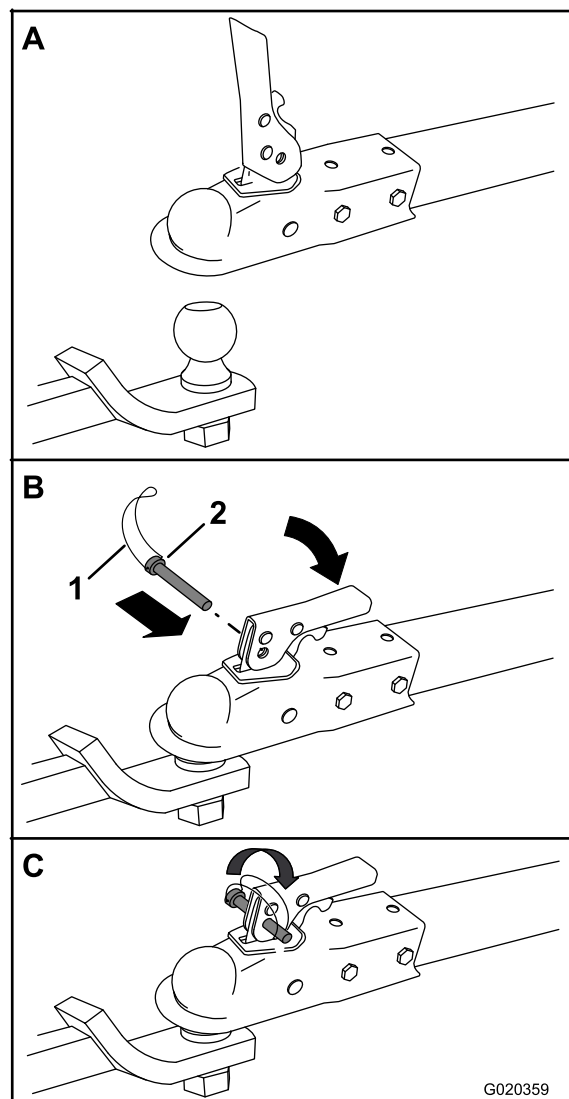

Figure 15
3. Open the coupler latch (Figure 15).